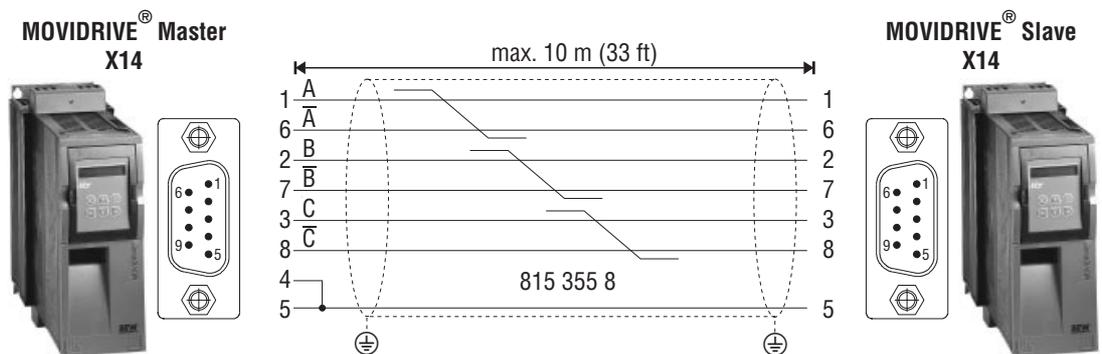

Fig. 10: X14 – X14 master/slave connection
- ① Necessary connection for synchronous start/stop (→ "Synchronous start/stop" on page 11).
- ② It is essential to comply with Fig. 10 and the following instructions for the X14 – X14 connection!